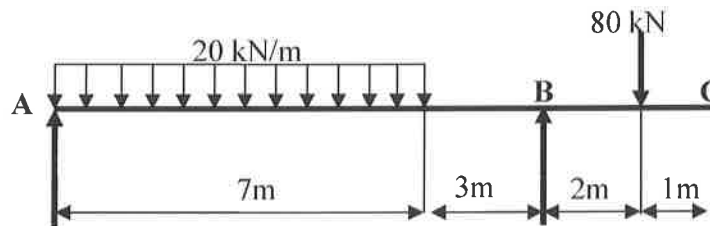

Figure Q9
9. The beam ABC is simply-supported at A and is continuous over the support B to C. When the beam carries the loading shown in Figure Q9, determine the slope at A, B and C, and the vertical deflection at the midpoint of AB and at C. Take $EI = 60 \text{ GNm}^2$ for the beam, (0.00106 rad; -0.00138 rad; 0.00129 rad; 18 mm; 2.18 mm)